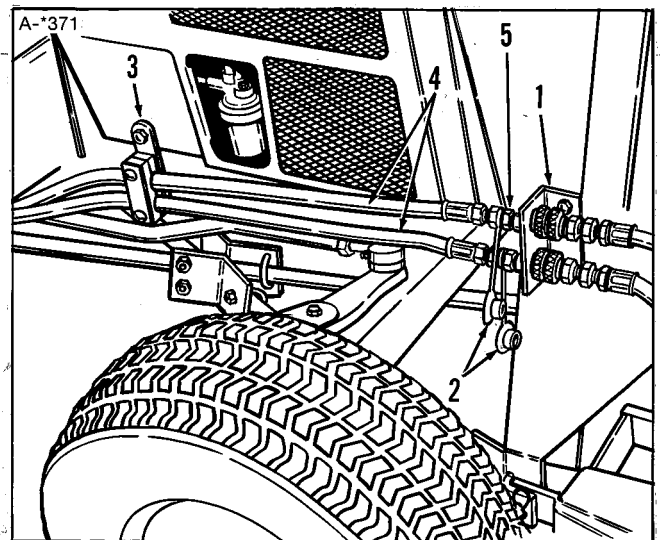

**Figure 5.**
5. Install the elbows (1 and 2, figure 5) into control valve (3). Place the valve in a vise with brass jaws. Screw the elbows into the valve, index as shown, then tighten nuts while holding elbows. Notice that the swivel elbow (2) is installed in an elbow (1).